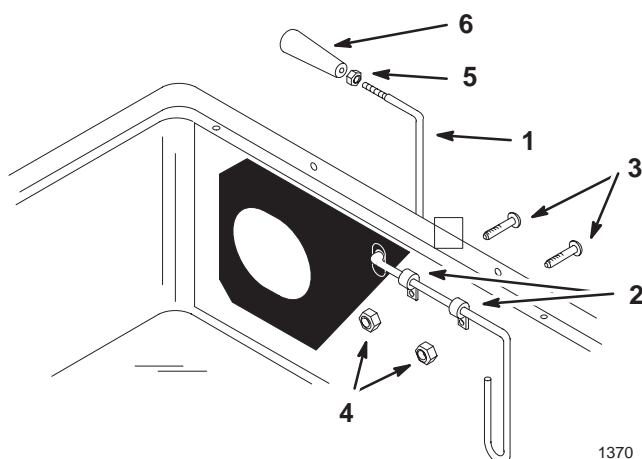

Figure 13
1. Slide the threaded end of the indicator rod through 2 clips, the rubber seal, and the slot in the cover (Fig. 13).
2. Secure the clips to the cover with 2 bolts (1/4 x 3/4 inch) and 2 locknuts (1/4 inch) (Fig. 13).
4. Rotate the handle so that the decal can be read from the operators position, then tighten the jam nut (Fig. 13).